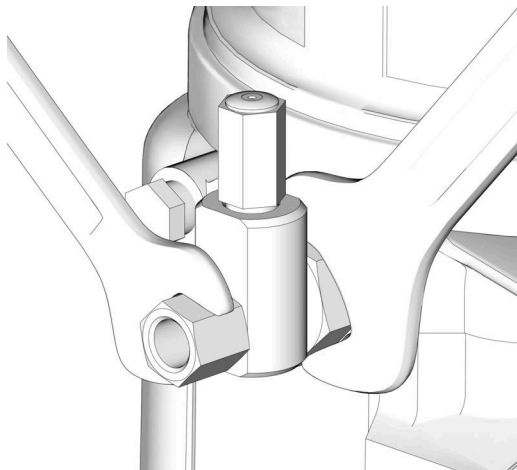

FIG. 20
Relieve pressure at the pump element using two wrenches working in opposite directions on the pump element and pump element fitting to slowly loosen fitting only until fitting is loose and no more lubricant or air is leaking from fitting. Repeat for each pump element installed (FIG. 20).
- Always use two wrenches working in opposite directions when connecting anything to pump element or auxiliary fittings. See FIG. 20 for an example.